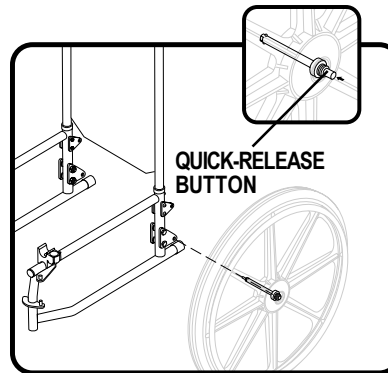

Figure 14. Drive Wheel Quick Release
! **WARNING!** Prevent injury. If you remove the drive wheels, make sure the quick-release buttons snap into place when reinstalling a wheel. See figure 14.
1. Press the quick-release button and pull the drive wheel off. See figure 14.
1. Remove the drive wheel from the frame. See figure 14.